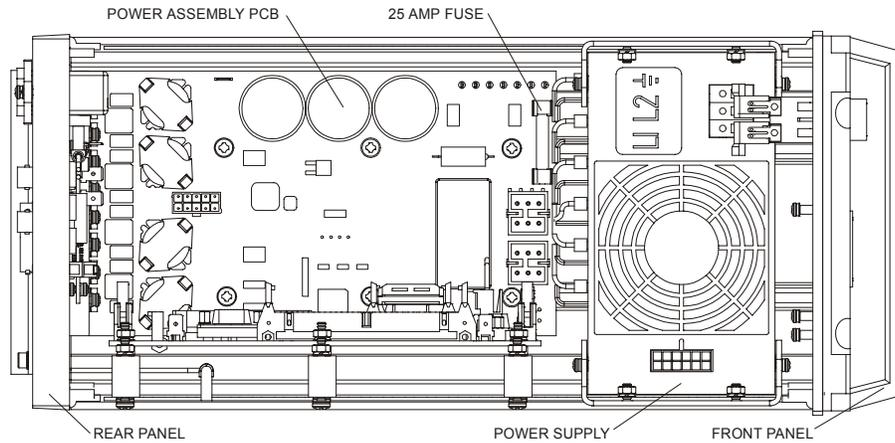

Figure 2. Electronic Chassis (Right View - Looking Toward the Power Interface PCB)
A fuse on the Power Assembly board (see Figure 2, page 3) protects the Ocean Surveyor from excessive incoming power. If this fuse continues to blow, check your input power before applying power again.
- b. Remove the top cover of the electronic chassis (see “Electronics Chassis Board Replacement,” page 2). The fuse is located on the Power Assembly board (Figure 2, page 3).